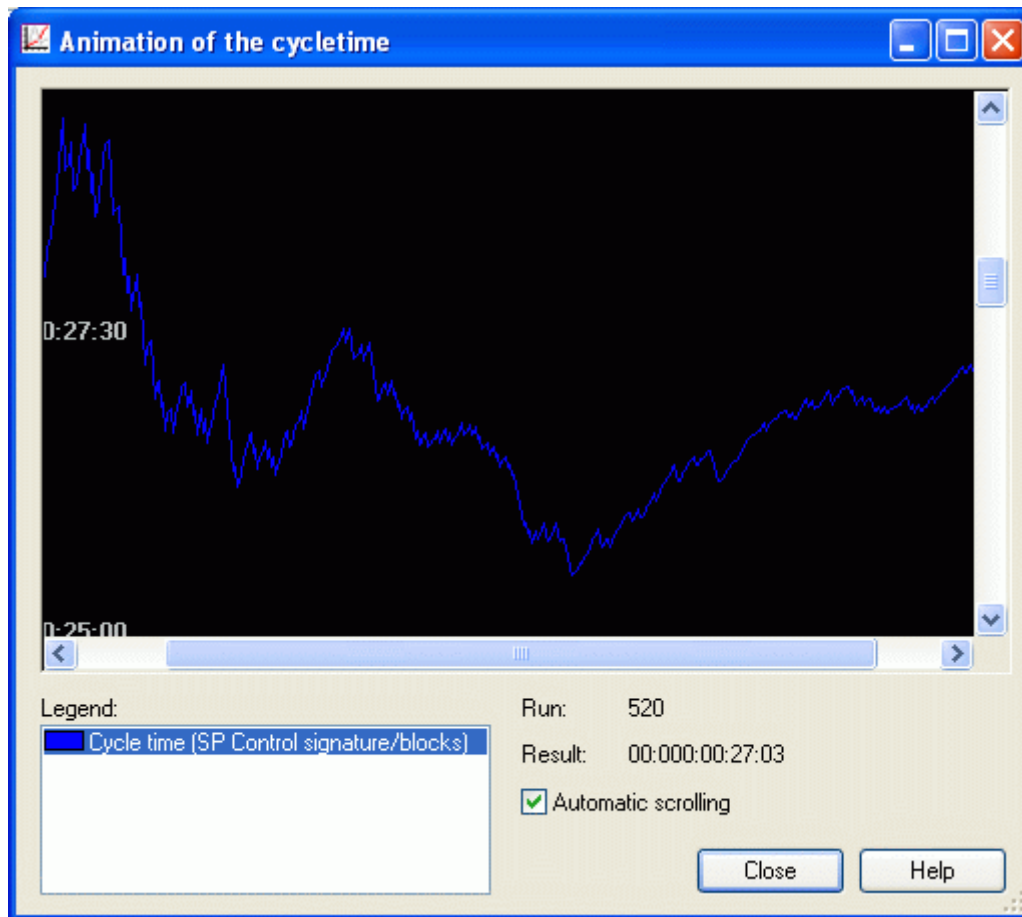

Figure 361: Animation of results by agents (example)
**Hint:** If you specified that an agent should animate (see chap. 4.8.4.1, p. 401) the results, an appropriate animation window (see chap. 4.8.6.1, p. 423) will have been opened during the offline animation (see fig. 361).
If you have assigned the result function "Animation" (see chap. 4.8.4.1, p. 401) to an agent, an animation window (see fig. 361), in which the development of the result is represented as a function graph, is shown during the simulation.